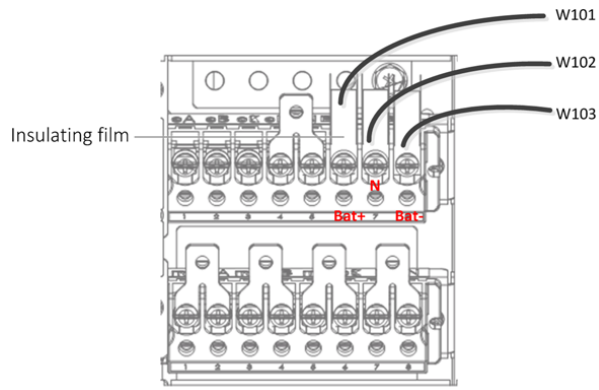
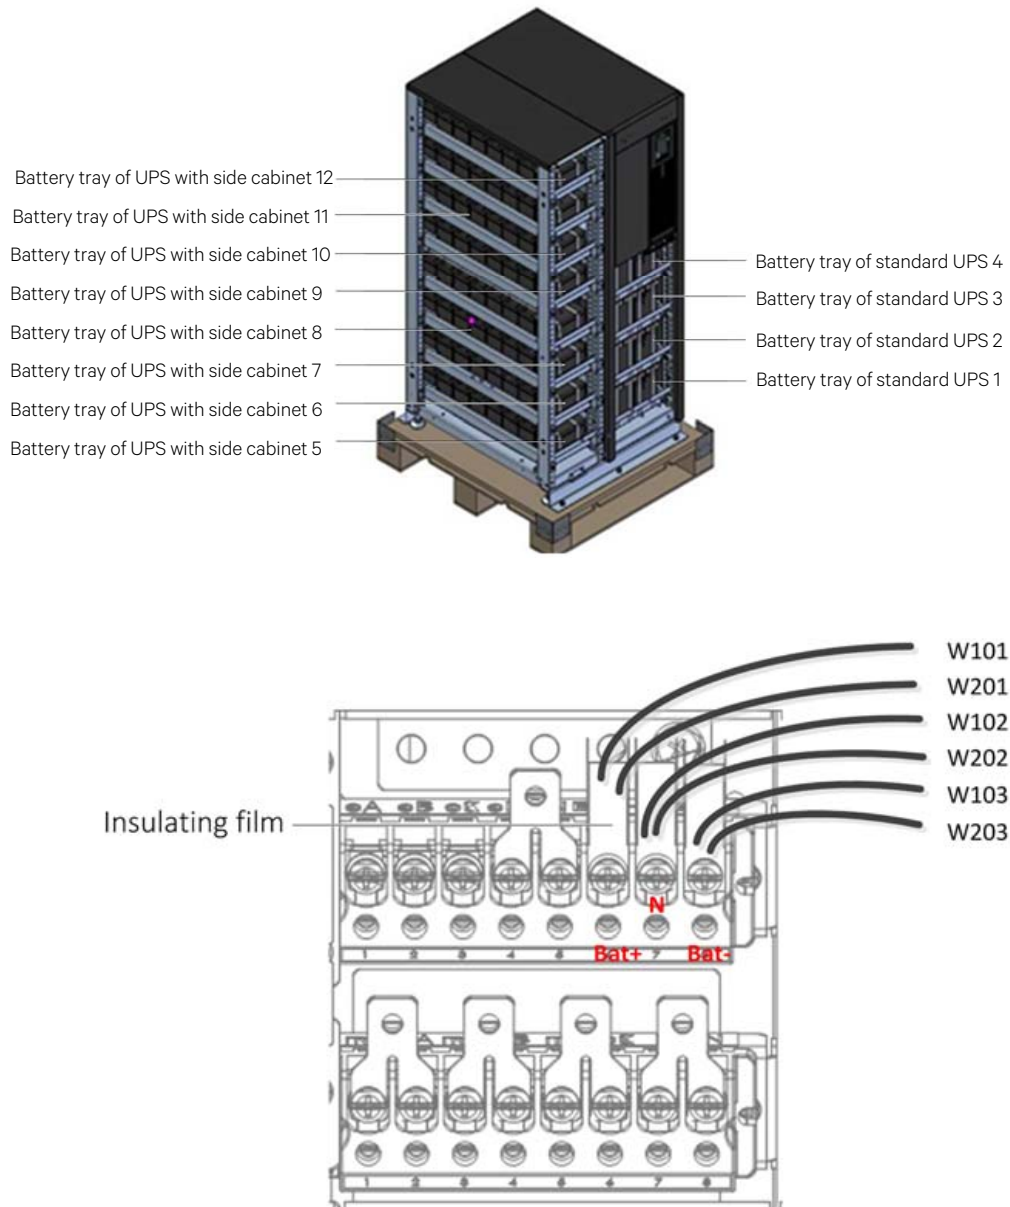

Figure 8-2 Installing standard UPS internal batteries
Figure 8-4 Installing battery trays and cable connections
- b) Remove the four battery accessory trays and position the batteries on them as shown in Figure 8-2, then connect cable W104 and cable W105.
- c) Insert four battery trays into the battery compartment (from bottom to top, see Figure 8-4). Connect cables W106, W107, W108, W109 and W110 as shown in Figure 8-2, then use the screws (accessories) to secure the battery trays.
b) Remove the four battery trays for the standard UPS (accessories) and install batteries on their respective trays. Connect cable W104 and cable W105, insert the four battery trays into the battery compartment (from bottom to top, see Figure 8-4). Connect cables W106, W107, W108, W109 and W110 as shown in Figure 8-2, then use the screws (accessories) to secure the battery trays.
c) Remove the eight battery trays for the UPS with side cabinet (accessories), and install batteries on their respective trays. Connect cables W204~W211, insert the eight battery trays into the battery compartment (from bottom to top, see Figure 8-4). Then use the screws (accessories) to secure the battery trays.